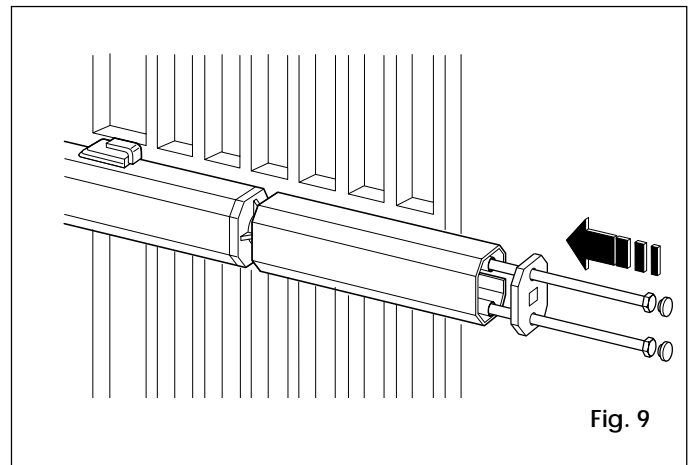
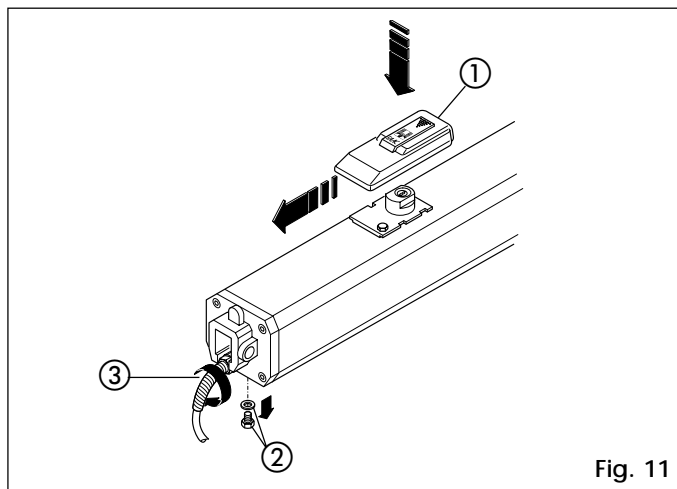

Fig. 9
Fig. 11
- 12) Fit the cover on the operator as shown in Fig. 9. Fit the cable sheath (3, Fig. 11).
- Fit the release unit cover (1 Fig. 11).
- Remove the breather screw (2, Fig. 11).